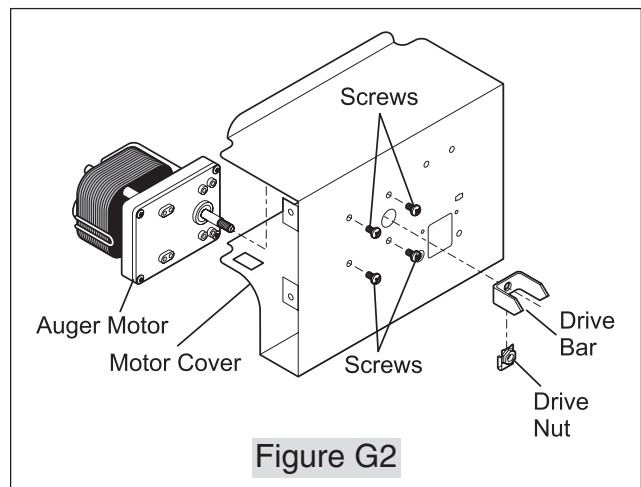

Figure G2
7. Rotate Drive Bar and Nut (located on front of Motor Cover) in counterclockwise position until it comes free of Auger Motor shaft. (See Figure G2)
8. Remove four (4) motor mounting screws and pull Auger Motor free from Motor Cover.